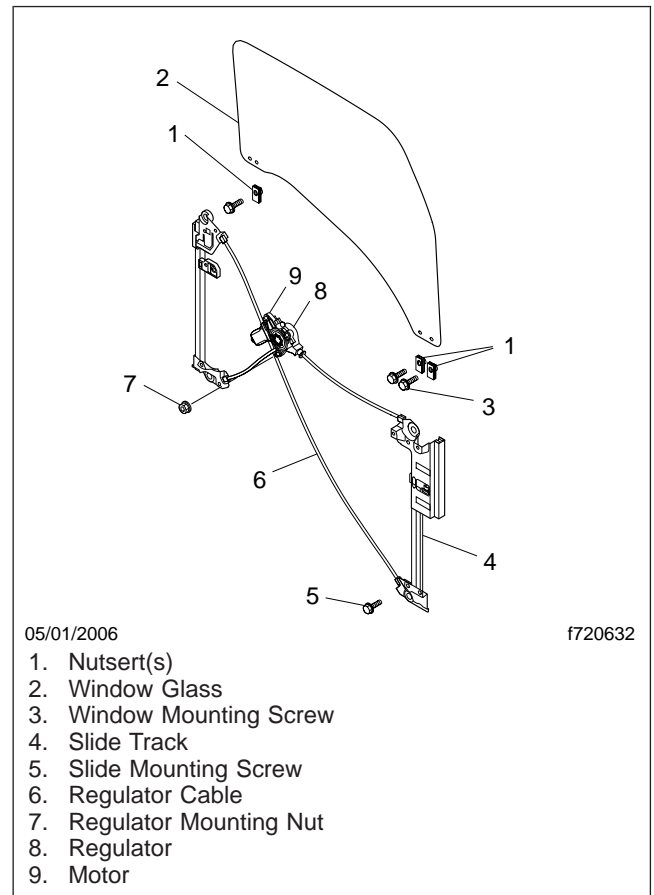

Fig. 6, Window Regulator Mechanism
1. Install the window motor and regulator mechanism on the door. See Fig. 6.